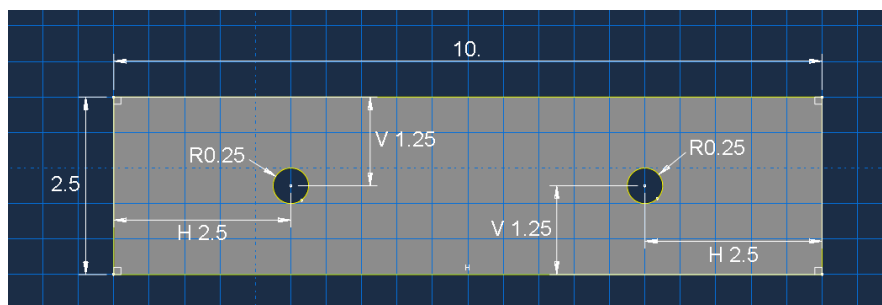

Figure L1–4. Sketch of the rectangular profile of the plate.
4. The final sketch is shown in Figure L1–4.